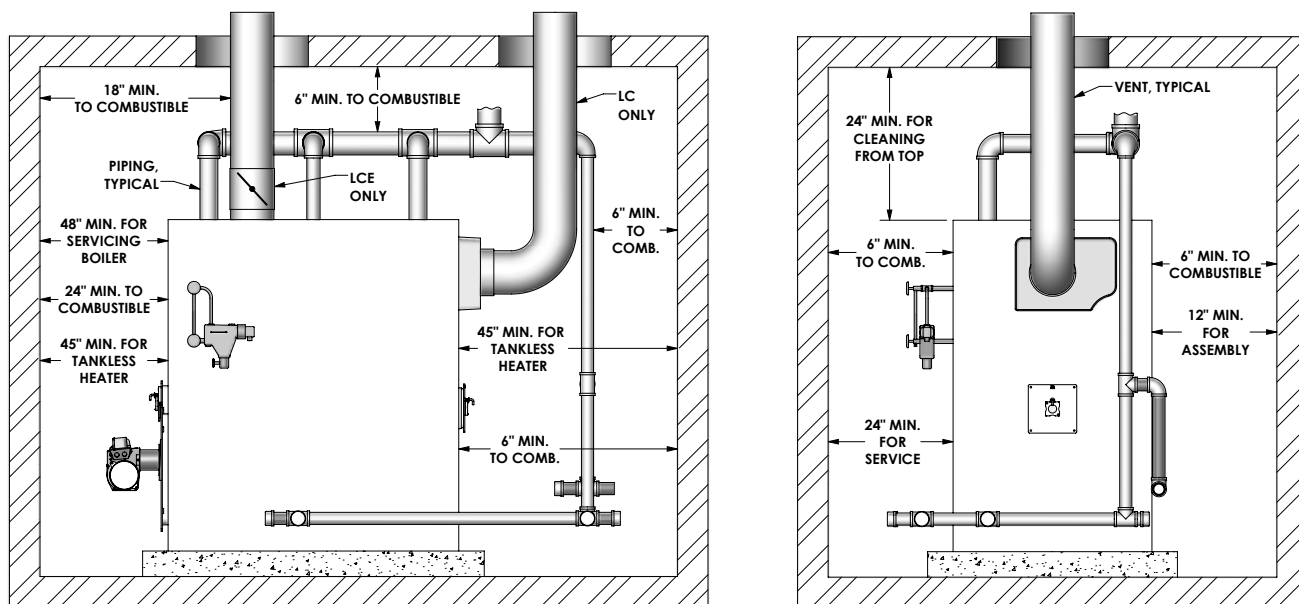

Figure 1.1: Clearance Requirements
- Clearances for service and from combustible surfaces are the same for the LCE as for the LC. The following recommendations allow for *reasonable access to the boiler*. Follow local codes and requirements when setting actual layout. See Figure 1.1.
Provide the following *minimum clearances to combustible construction*. See Figure 1.1.